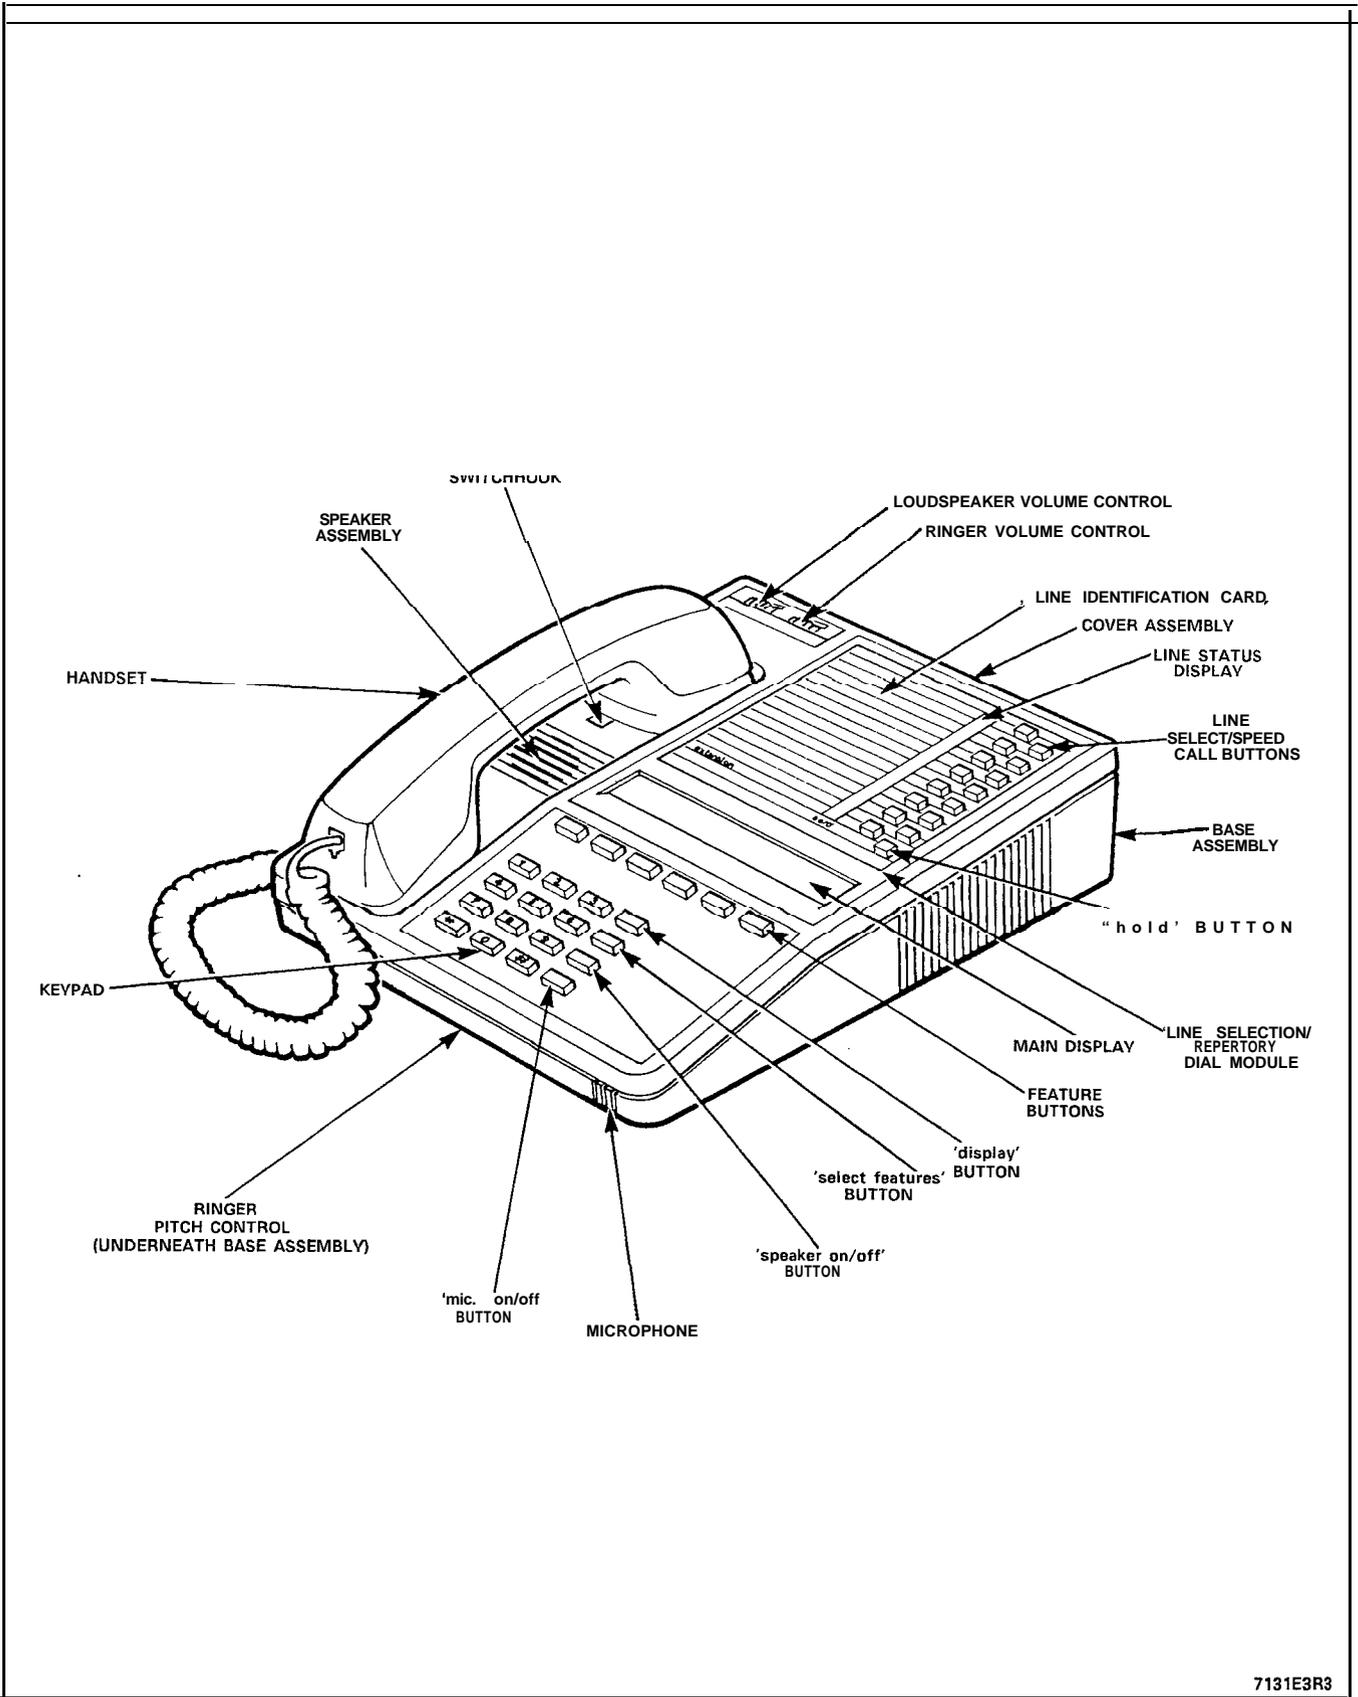

Figure 3-2 SUPERSET 4 Telephone
3.04 The body of the *SUPERSET 4* telephone comprises two parts: a base assembly and a cover assembly (Figure 3-2).